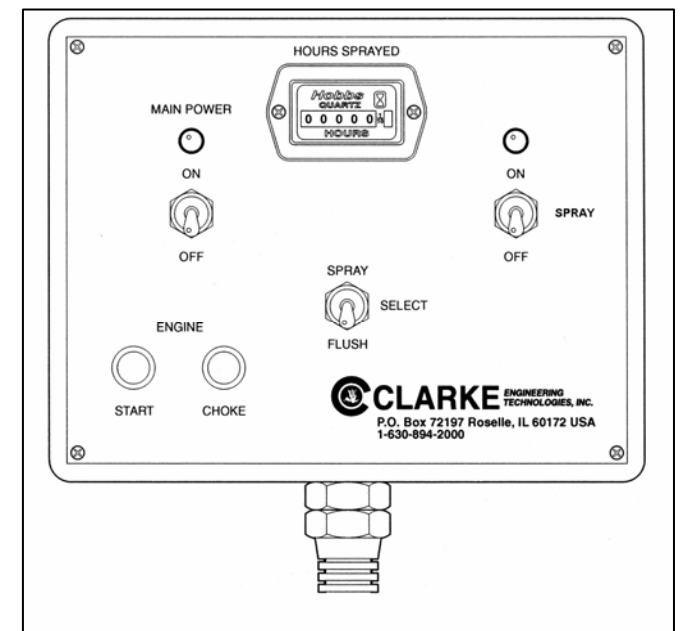

Fig. 54. Remote Control Station.
- 3. Remote Control Station - contains a number of components for controlling the unit (Fig. 54).